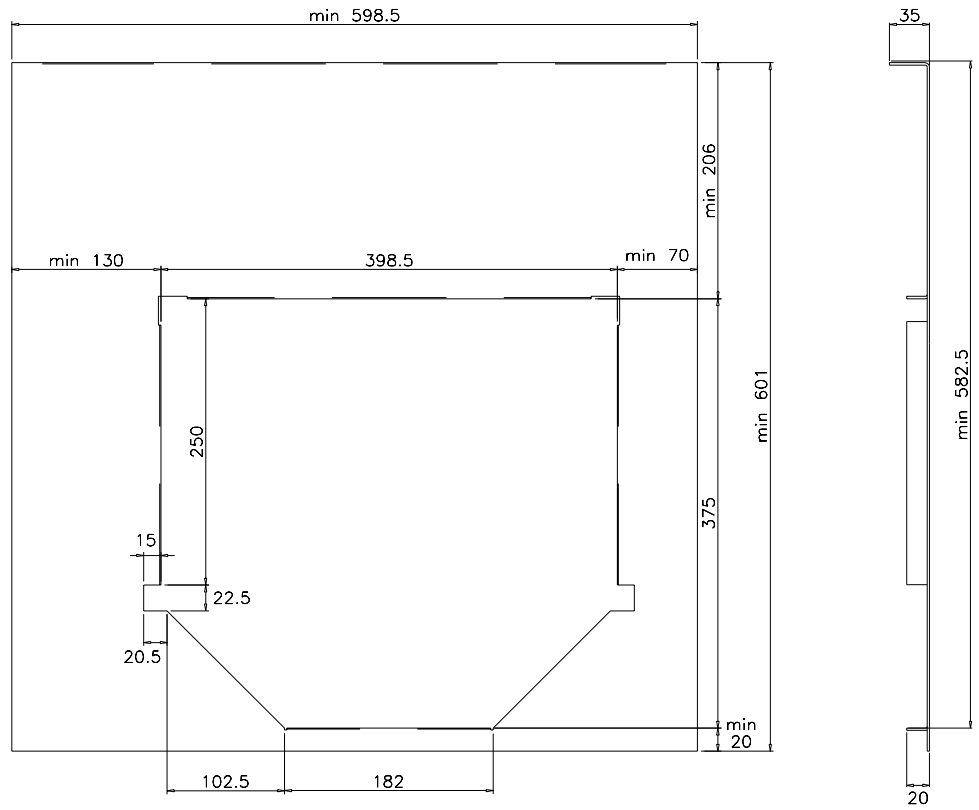

Figure 2-19 Air baffle for Frame B5 supply module.
**Frame B5** Frame B5 supply modules are fixed to the rear wall of the cabinet with two screws, and to the floor of the cabinet with further two. The weight of the module(s) is supported by the cabinet floor. An air baffle must be used to prevent air from circulating inside the cabinet; Figure 2-19 shows a suitable design. The input and output connections on the left side of the module are made using busbars.